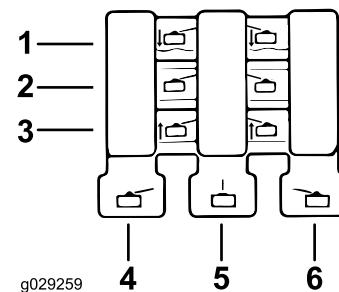

Figure 26
1. To lower the cutting units, operate the lift-control levers in a downward direction and release (Figure 26).